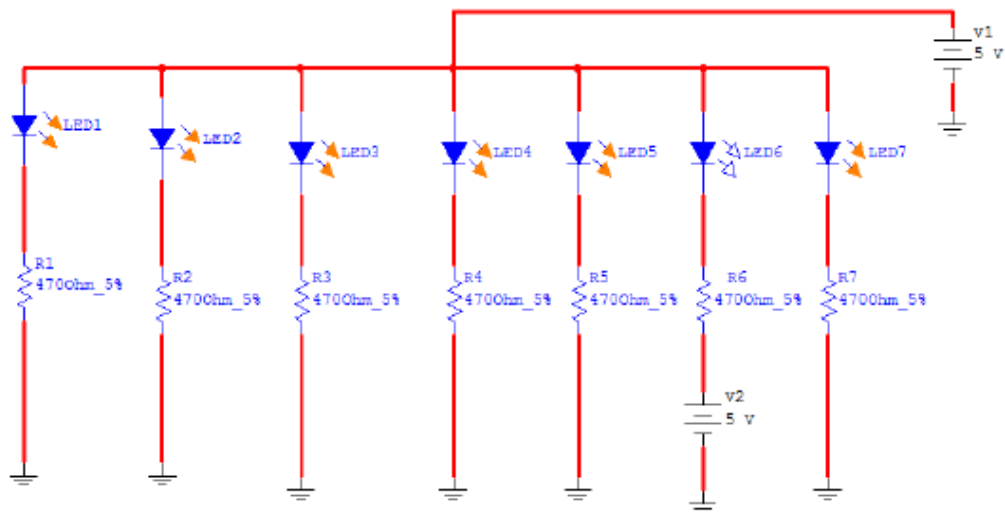

Fig.12 Common anode 7-segment
- Connect the circuit shown in Fig.12.